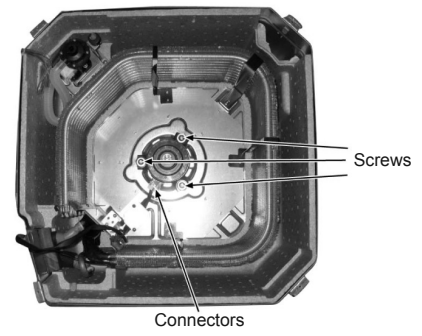

Fig. 8
- 8 Remove the Fan Motor by release the Fan Motor lead wire connectors and Fan Motor screws (Fig. 8).